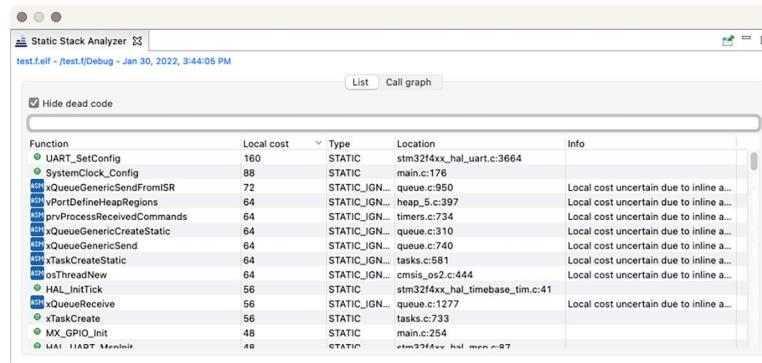

Figure 24.17: The List tab in the Static Stack Analyzer view
- The **List** tab (see Figure 24.17) contains a list of all functions included in the selected program. Use the **Hide dead code** selection to enable or disable the listing of dead code functions (that is functions discarded by the linker because not used at run-time). If used, the **Filter** field restricts the display to functions matching the characters it contains.